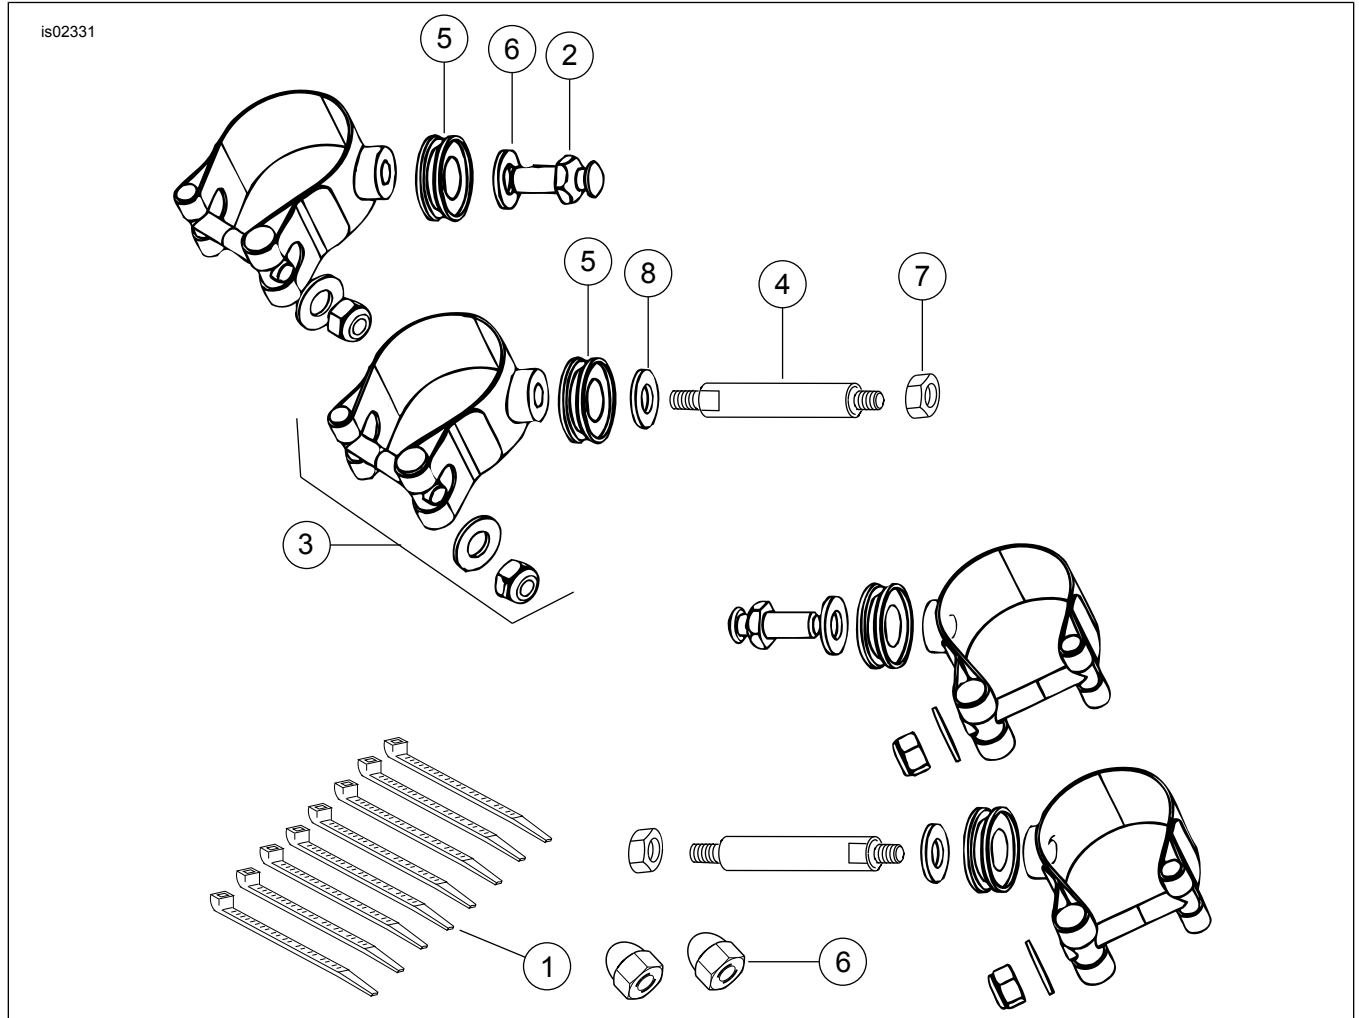

Figure 14. Service Parts: Windshield Docking Hardware Kit
- d. See Figure 14. Obtain Acorn Nut (6) from kit. Use lockwasher saved in Step b, and install acorn nut to secure mirror. Tighten securely.
7. See Figure 14 and Figure 10. Obtain two hex jamnuts (7) from kit and thread one onto each standoff attached to lower windshield mounting clamp.